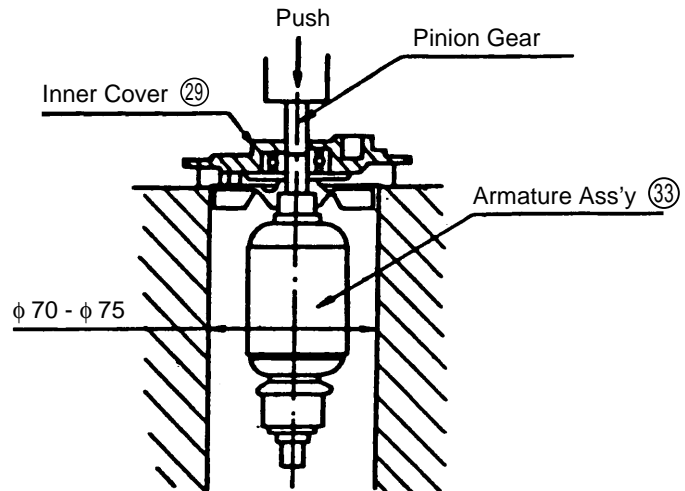

Fig. 8-1
As illustrated in Fig. 8-1, support the Inner Cover Ass'y (29) with a tubular jig, and push down on the tip of the Pinion Gear on the Armature Ass'y (33).